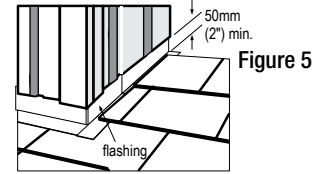

Figure 8
Figure 8, Kickout Flashing[‡] To prevent water from dumping behind the siding and the end of the roof intersection, install a "kickout" of sufficient length and angle to direct the water running down the roof away from the siding.
* The illustration (figure 8) was reprinted with permission of THE JOURNAL OF LIGHT CONSTRUCTION. For subscription information, visit www.jlconline.com.